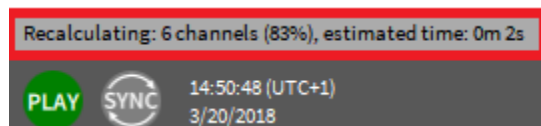

Figure 5-67: Progress indicator for Offline Math calculations
- A *Progress indicator* will inform about the actual calculation progress (see Figure 5-67) and contains information about the number of calculated channels, the calculation progress in percent and the remaining calculation time: